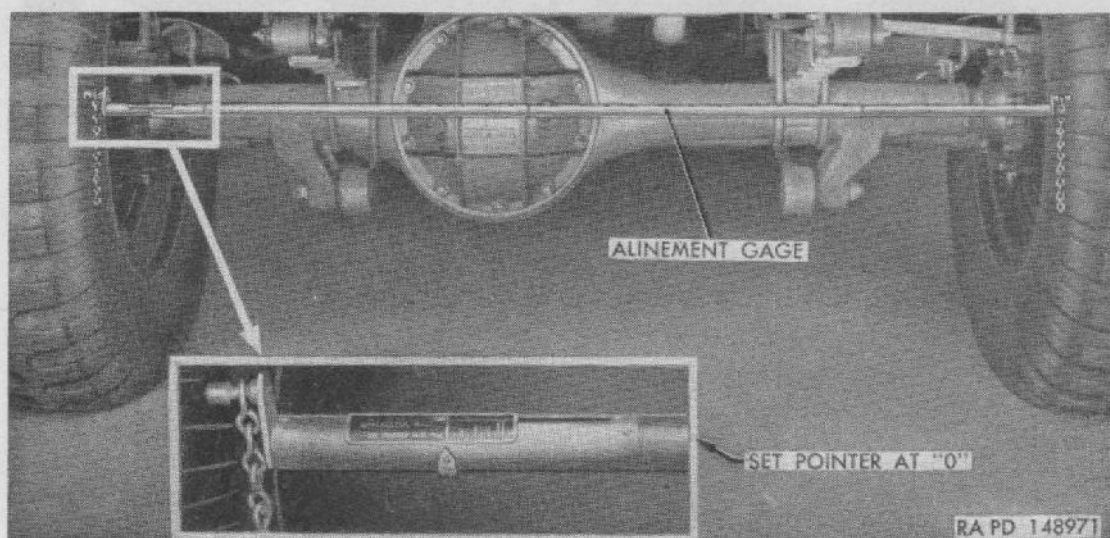

Figure 113. Checking toe-in (Gage 41-G-510).
a. TOE-IN CHECK (fig. 113). Inflate tires to correct pressure (par. 240a), check for proper wheel bearing adjustment (par. 244); then place vehicle on a smooth, level surface with the wheels in straight-ahead position. Place a toe-in wheel alignment gage between the wheels ahead of the axle at hub height with the ends of the gage bearing against the tire side walls and with ends of both pendant chains an equal distance from ground. Set gage so pointer registers zero. Remove gage and place at same relative position at rear of tire and with ends of pendant chains same distance from ground as at front. The pointer will indicate the amount of toe-in or toe-out. Correct toe-in is 5/32 inch to 7/32 inch.